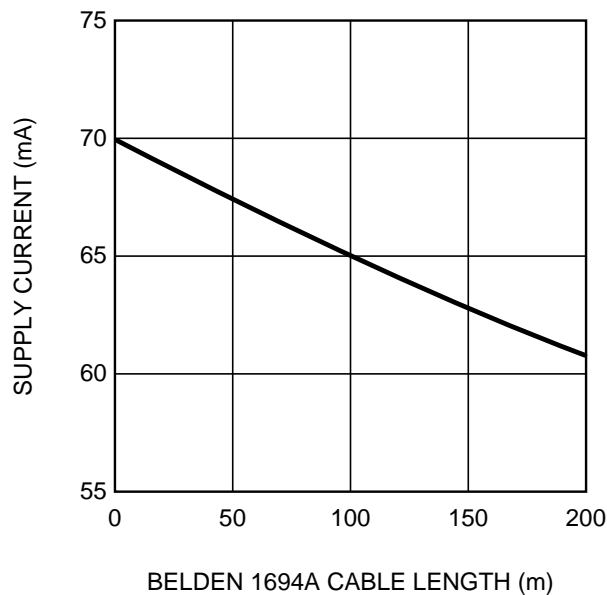
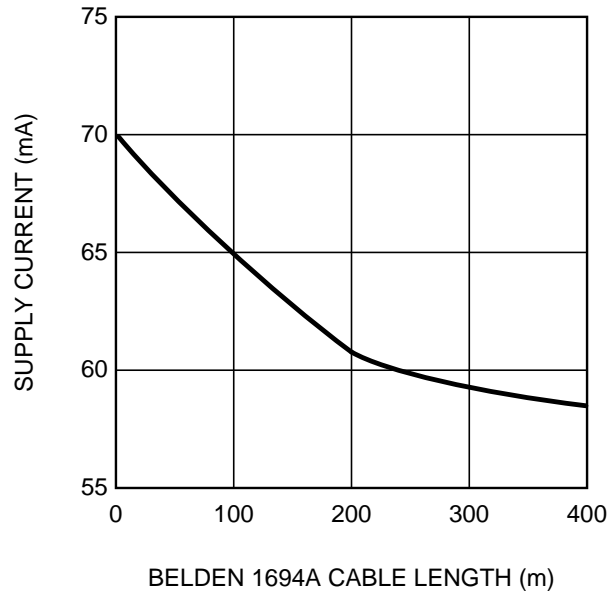

Figure 3. Supply Current vs. Belden 1694A Cable Length, 1.485 Gbps
Figure 4. Supply Current vs. Belden 1694A Cable Length, 270 Mbps
(6) Supply current depends on the amount of cable being equalized. The current is highest for short cable and decreases as the cable length is increased. Refer to Figure 3 and Figure 4.
The supply current (I_{CC}) depends on the amount of cable being equalized. The current is highest for short cable and decreases as the cable length is increased. Figure 3 shows supply current vs. Belden 1694A cable length for 1.485 Gbps data and Figure 4 shows supply current vs. Belden 1694A cable length for 270 Mbps data.